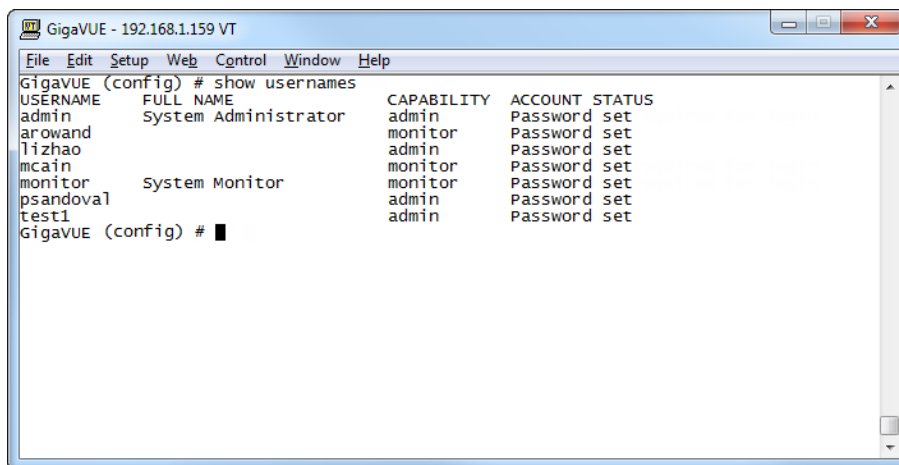

Figure 16 Reviewing the User List
- Once you have configured these basic user accounts, use the **show usernames** command to review your settings. Figure 16 Reviewing the User List shows some sample **show usernames** output after several users have been added.